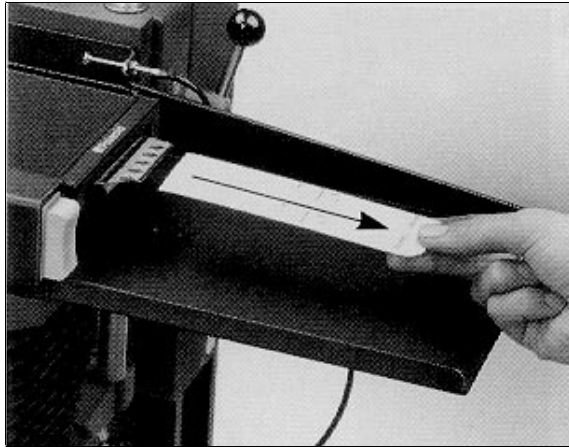

Figure 3-17. Pull White Tab
1. Pull the white tab all the way straight out of the film holder (figure 3-17). A large yellow tab will appear. (If not, see the paragraph "No Yellow Tab?")